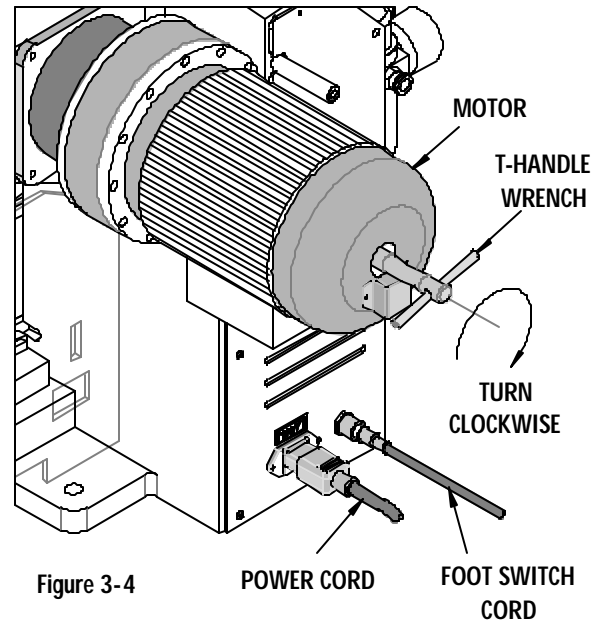

Figure 3-4
1. Insert the 8mm square socket T-handle wrench through the access hole in the center of the rear cover on the motor and locate it in the shaft motor. See Figure 3-4.